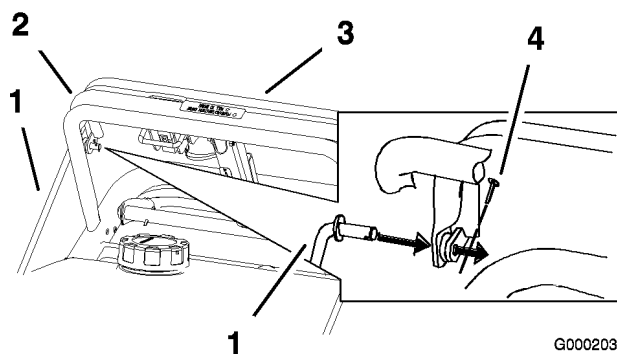

Figure 11
1. Install the control rods into the upper control bar and the blade control bail. Secure the control rods with 2 cotter pins (Figure 11).